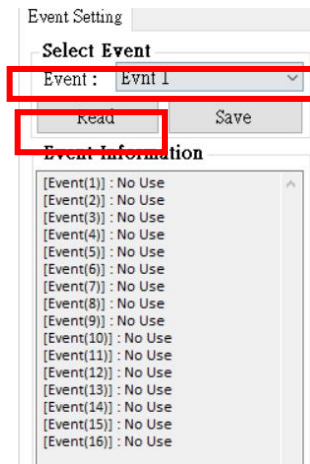

Figure 5.10.21
D. First select Event and press "Read" as shown in Figure 5.10.21